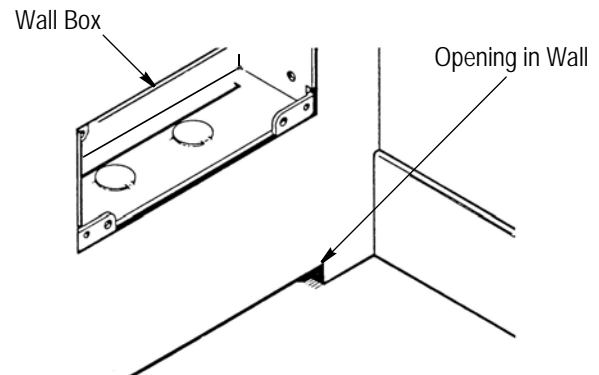

Figure 3
1. Cut an opening approximately 152.4×12.7 mm [6.0×.50 in.] in the wall just above the floor for the power cable to exit. See Figure 3.
1. Cut an opening approximately 152.4x12.7mm [6.0x.50 in.] in the wall just above the floor for the communications cable to exit. See Figure 3.